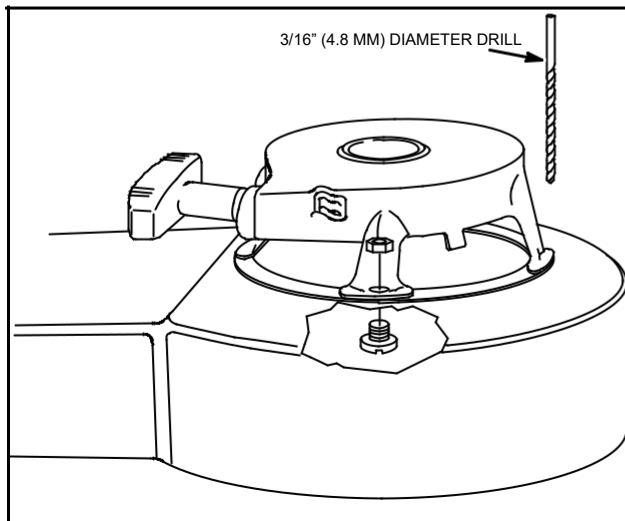

Fig. 614 – REMOVING AND INSTALLING
4. Fasten securely with nuts as shown in Fig. 614.